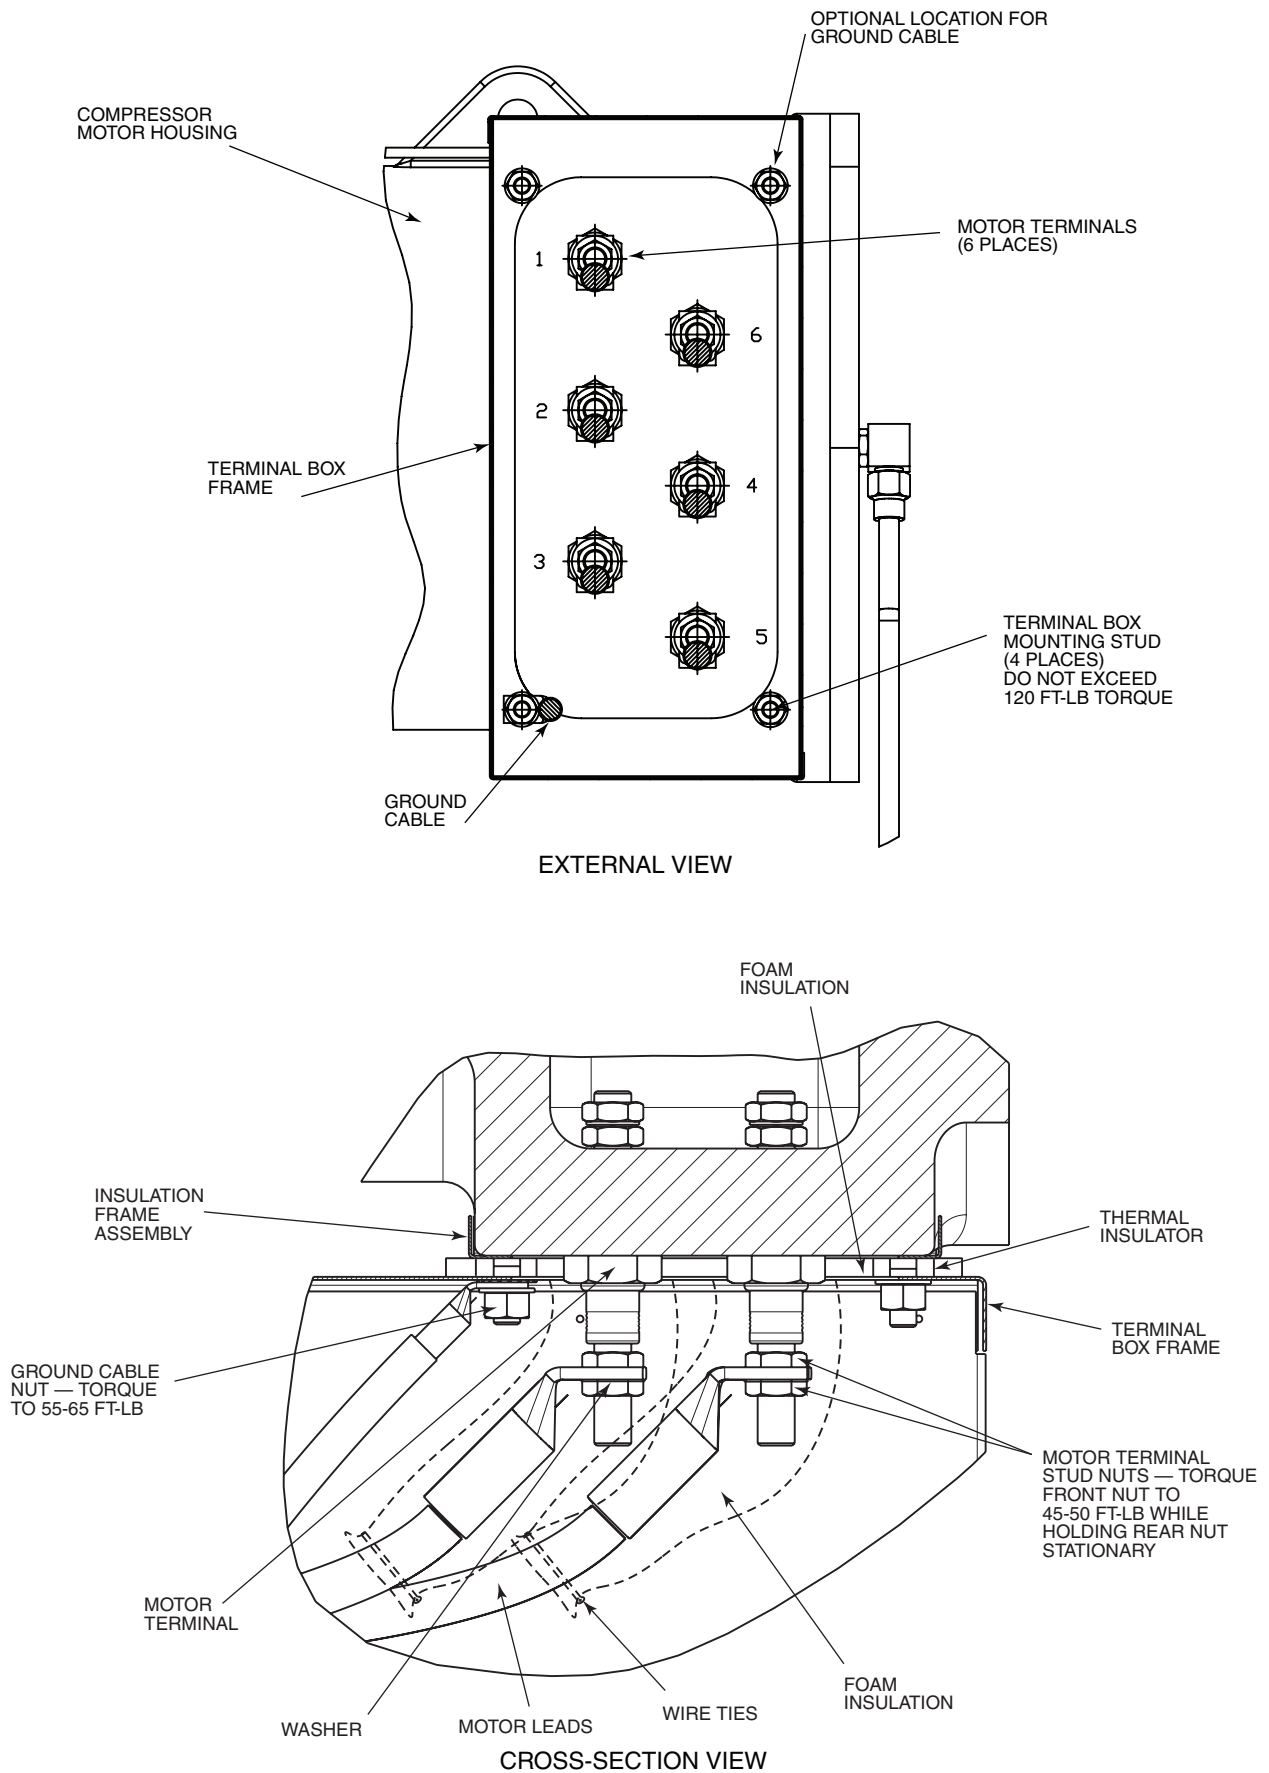

Fig. 16 — Compressor Motor Terminals (Typical)
4. Label and disconnect the motor leads from the motor or VFD terminals (Fig. 16 and 17). Note the position of the motor terminal cable lugs so they can be reinstalled with sufficient clearance away from the surrounding structure. When reinstalling the VFD, assemble the back panel, floor, and tray of the motor terminal box transition piece prior to installing the motor leads.
1. Install terminal box frame mounting studs into tapped holes using short threaded end. Do not exceed 120 ft-lb (163 N-m). See Fig. 16.
4. There may be 1 or 2 motor power cables per terminal identified as T1, T2, and T3. Position motor end lugs on terminal studs with Belleville washer located against the front terminal lug with the convex side facing toward the front terminal nut. Clinch the two cables together with wire ties before tightening terminal nuts. Install front terminal nut finger tight. Hold rear terminal nut stationary while tightening front terminal nut to 45 to 50 ft-lb (61 to 68 N-m). See Fig. 16.
Insulate Motor Terminals and Lead Wire Ends — Locate heat shrink tubing (RCD P/N LF33MM114) over power connections so that they are completely covered and tubing is against motor housing. Shrink into position. Slide foam tubing (3 in. inner diameter closed cell vinyl, neoprene, or nitrile foam) part way over the heat shrink tubing. Apply adhesive for closed cell foam insulation to motor side end of the foam tubing and push tubing the rest of the way over the terminal and against the sheet insulation on the motor side. Secure the opposite end of the foam tubing with a wire tie as shown in Fig. 16.
6. Orient PE/ground lug as shown in Fig. 16. Assemble internal/external tooth lock washer between the terminal box frame and the PE/ground cable. Torque PE/ground lug nut to 55 to 65 ft-lb (75 to 89 N-m).